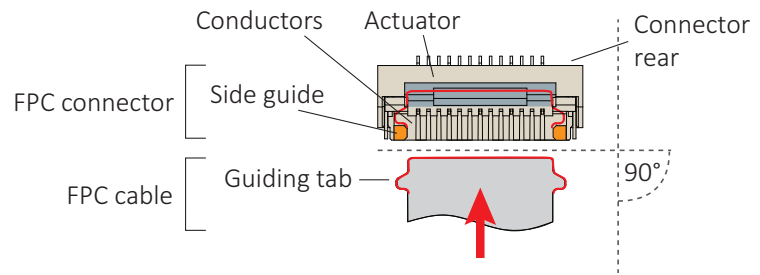
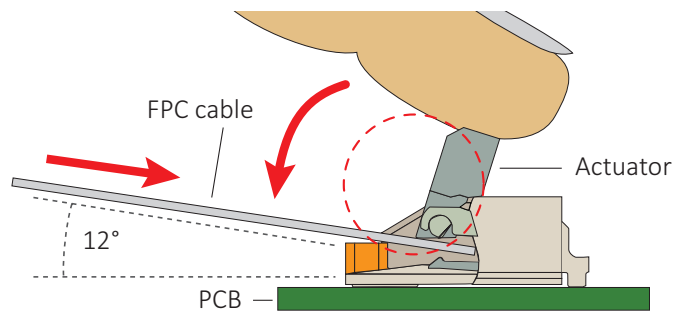

Figure 14: FPC cable and FPC connector
Figure 15: Engaging the FPC cable in the FPC connector
2. **Ensuring proper cable orientation between devices to be connected**, take the FPC cable with conductors facing the FPC connector conductors (see Figure 14 on page 39).
At a horizontal angle of 90° to the connector's rear (see Figure 14) and at a vertical angle of 12° to the PCB (see Figure 15), slowly insert the FPC cable into the actuator...
4. ...until cable guiding tabs are caught between connector rear and side guides (see Figure 14). Pull the cable slightly to ensure guiding tabs are properly engaged.
5. Holding the FPC cable in position, flap down the actuator to closed position (see Figure 15).